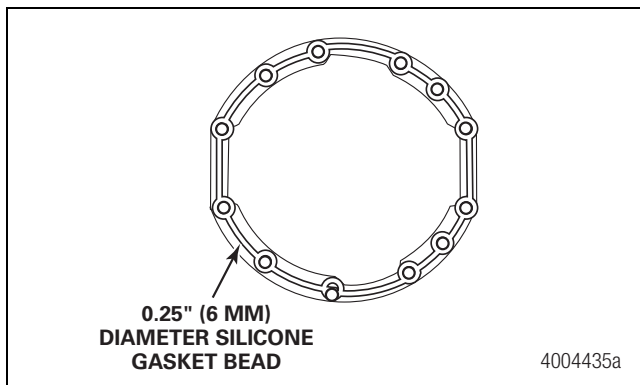

Figure 2
1. Apply a 0.25-inch (6 mm) bead of Loctite® 5699 silicone gasket material, Meritor part number 2297-A-7021, to the housing face. Do not apply ThreeBond 1216E silicone products. Damage to components can result. Only use the specified amount of gasket material; otherwise, it can break off, plug lubrication passages and damage components. Figure 2.